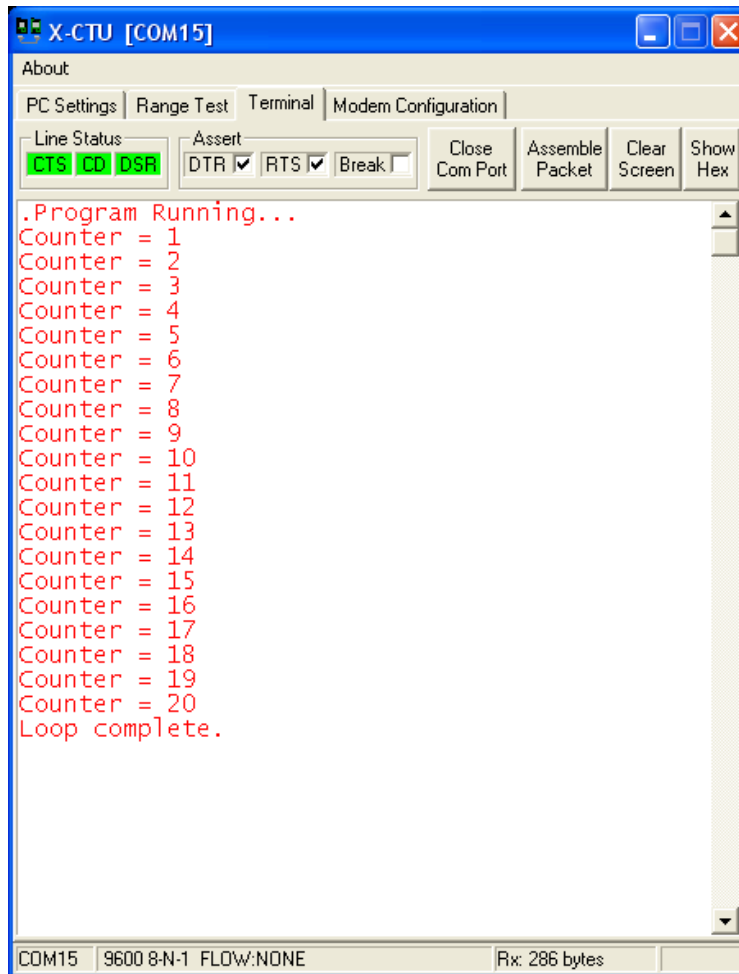

Figure 4-3: Simple Debug to Base Testing
- ✓ Monitor the debugged data in the base terminal window as shown in Figure 4-3.